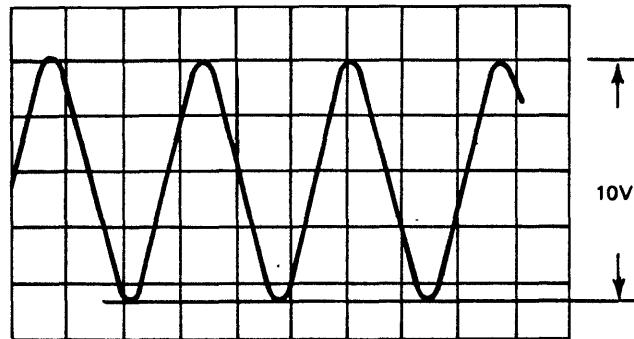

Figure 5-4. Amplifier Waveforms (TP101)
- h. Adjust potentiometer R117 until the analog signal displayed on the oscilloscope is 10 volts peak to peak (figure 5-4).